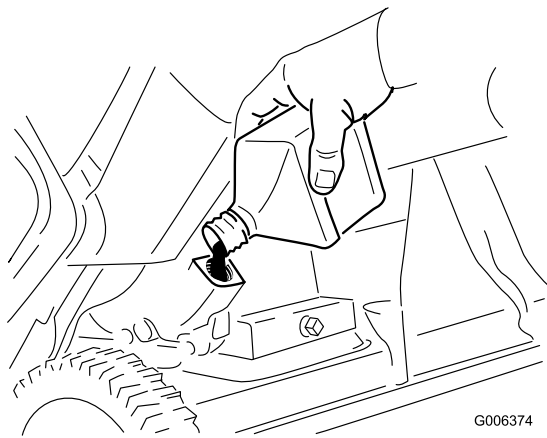

Figure 30
8. With the machine in the operating position, **carefully** pour oil into the oil fill hole. Wait 3 minutes for the oil to settle and add enough to bring it to the point of overflow. There should be very little, if any, oil left in the bottle.(Figure 30).